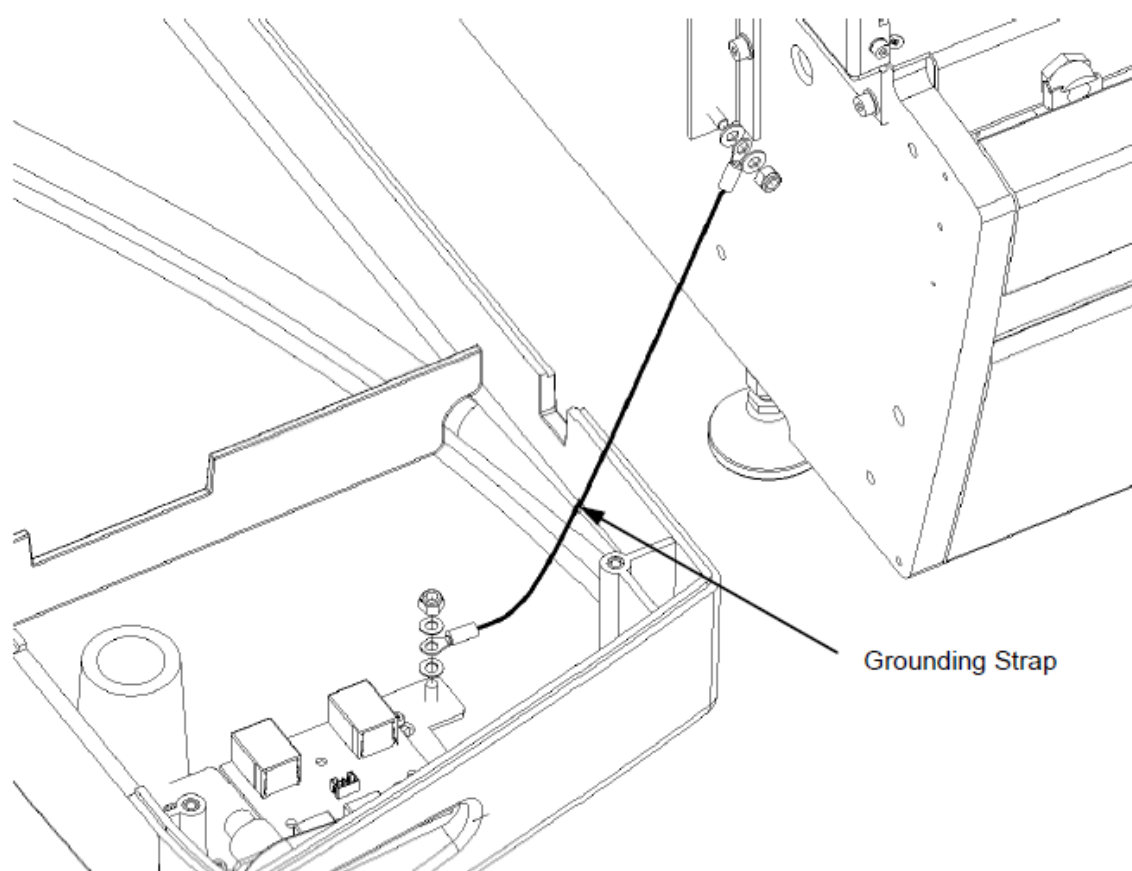

Figure M-8: Grounding Strap
- **Note:** When replacing the Front Panel Power Switch, make certain that the grounding strap is connected as shown in Figure M-8.